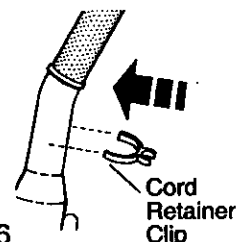

FIGURE 6
- A Cord Retainer Clip is provided to enable the Cord to be retained in a more convenient location. Attach the Cord Retainer Clip onto the lower part of the handle Grip. (Figure 6)